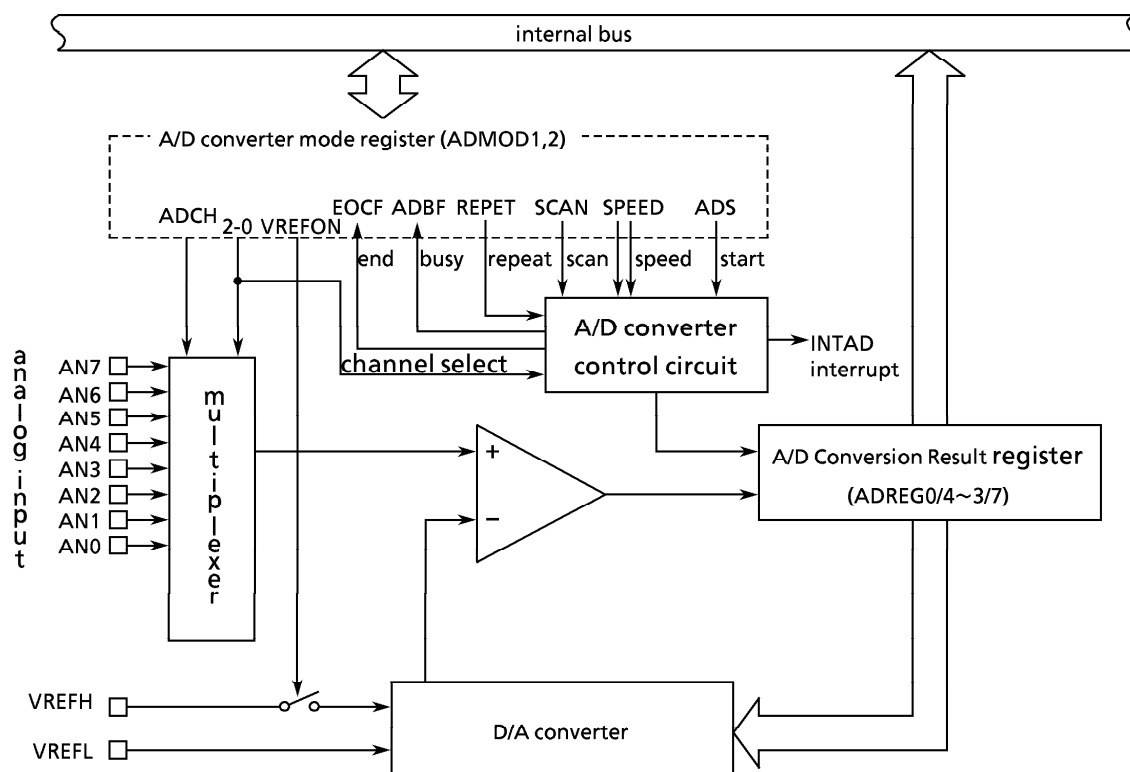

Figure 3.12 (1) Block Diagram of A/D Converter
Figure 3.12 (1) is a block diagram of the A/D converter. The 8-channel analog input pins (AN7-AN0) are shared by input-only port C and can thus be used as input port pins.